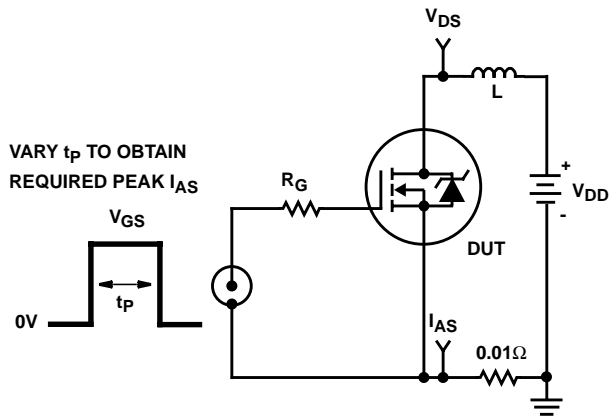

FIGURE 15. UNCLAMPED ENERGY TEST CIRCUIT
4. $V_{DD} = 40\text{V}$, starting $T_J = 25^{\circ}\text{C}$, $L = 5.66\mu\text{H}$, $R_G = 50\Omega$, peak $I_{AS} = 15\text{A}$. (Figures 15, 16).